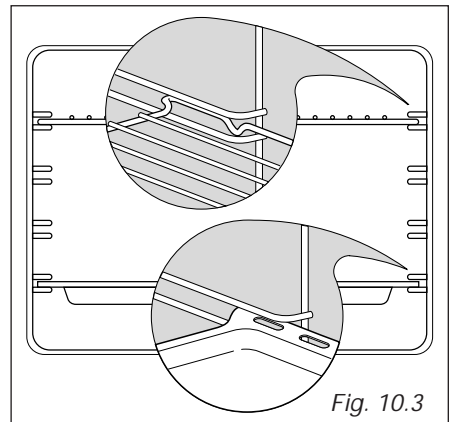

Fig. 10.3
- Slide in, on the guides, the shelf and the tray (fig. 10.3). The shelf must be fitted so that the safety catch, which stops it sliding out, faces the inside of the oven.